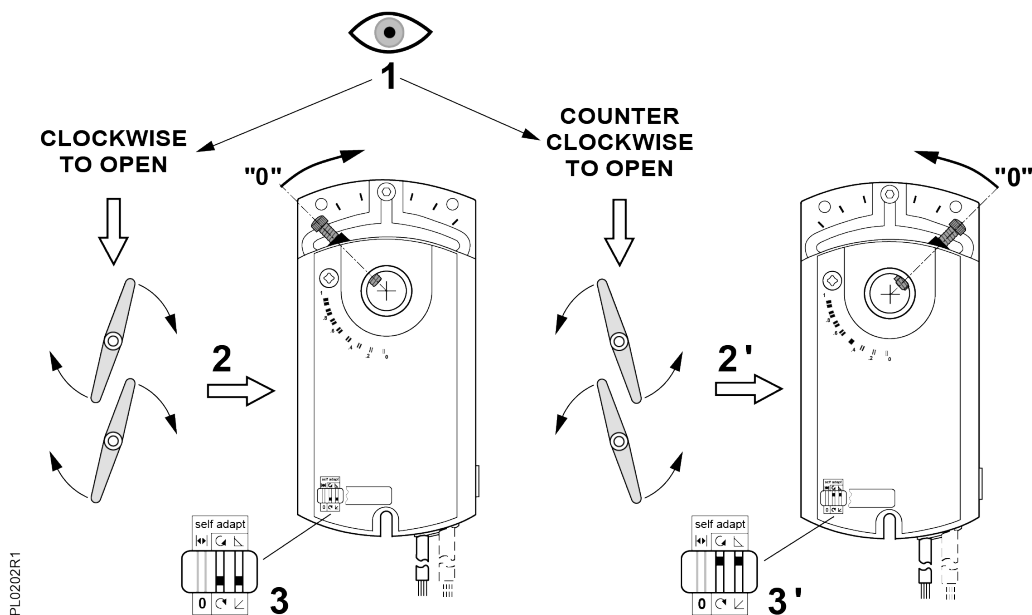

Figure 3. Setting the Direction of Rotation.
1. Determine whether the damper blades will rotate clockwise or counterclockwise to open. See Figure 3.
3. Set the Dual In-line Package (DIP) switches to the required positions. See Figure 3.
4. To access the DIP switches, raise the tab on the lower left side of the actuator's face. See Figure 3. The factory setting is clockwise (middle switch), with a direct-acting feedback signal (right switch).
1. To use the entire 0 to 10V input signal to control the adjusted range, raise the tab located on the lower left-hand side of the actuator and locate the DIP switches. See Figure 3.